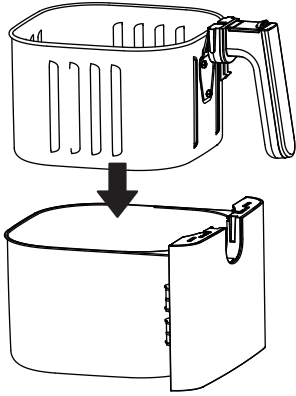

Fig. 3
2.Put the frying basket into the frying barrel and fasten it in place (Fig. 3), and then push it into the main machine (Fig. 4).